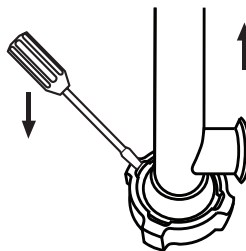

Figure 14
3. Remove the connection nut (see Figure 14)